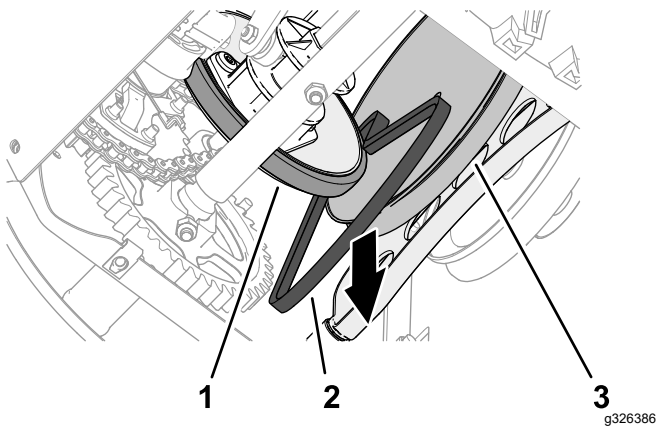

**Figure 47**
5. At the back of the machine, loosen the 2 top flange-head capscrew (1/4 x 5/8 inch) that secure the rear cover to the machine (Figure 47).
- Remove the 6 flange-head capscrew (1/4 x 5/8 inch) that secure the bottom cover to the machine, and remove the cover (Figure 47).